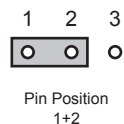

Figure 2.2 J7 — Default Position
- › **Pin 1** (left) + **Pin 2** (center) position — In this position, the reference is terminated with a 75ohm resistor. This configuration is to be used for point-to-point cabling, or on the last card of a daisy chain topology. This is the default position. Refer to **Figure 2.2** for pin positions.
- **Pin 1** (left) + **Pin 2** (center) position — In this position, the reference is terminated with an 75ohm resistor. This configuration is to be used for point-to-point cabling, or on the last card of a daisy chain topology. This is the default position. (**Figure 2.2**)